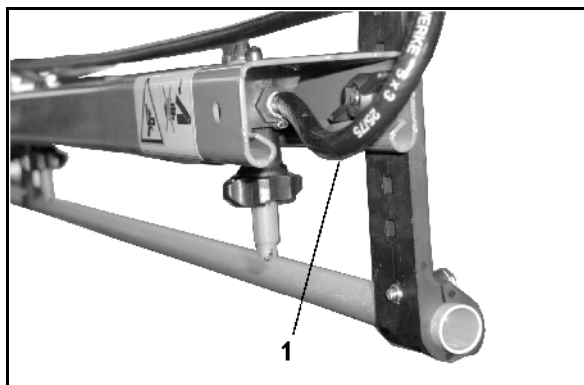

Fig. 77
- allows the permanent liquid circulation in the spray line when the pressure circulation system is switched on. For this every boom part width section is provided with a flushing hose (Fig. 77/1).
- one hose for the flushing connection (Fig. 77/1) per boom part width section.